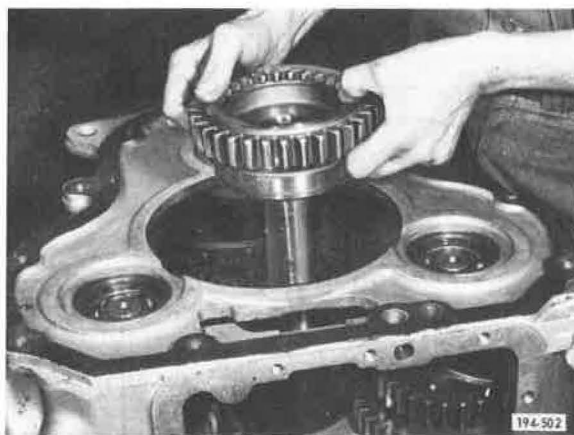

Figure 370. Installing Pinion
5. Install front compound main drive pinion into box. See Figure 370.